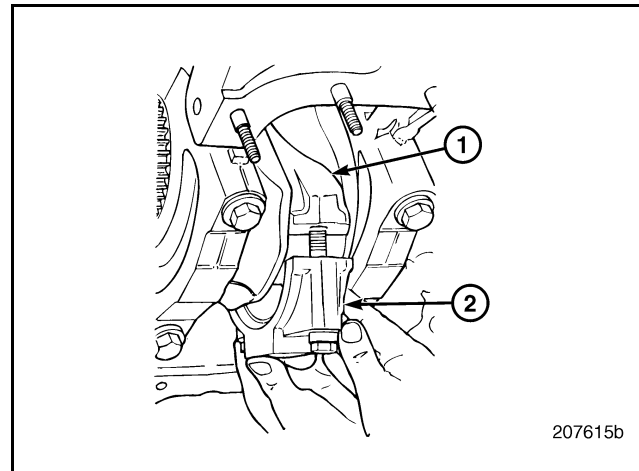

Figure 333 — Connecting Rod Cap Installation
14. Begin by installing the bearing cap at the No. 1 connecting rod journal (Figure 333) and check **Running Clearance** following the procedure later in this section. Repeat the running clearance check following the installation of each of the remaining five pistons.